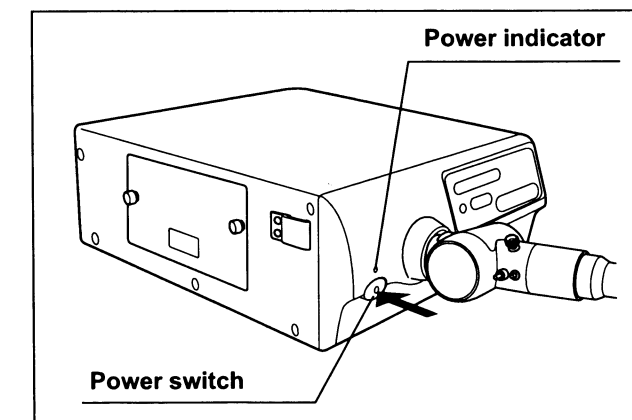

Figure 4.14
- Press the power switch to turn the light source OFF. The power indicator is extinguished (see Figure 4.14).